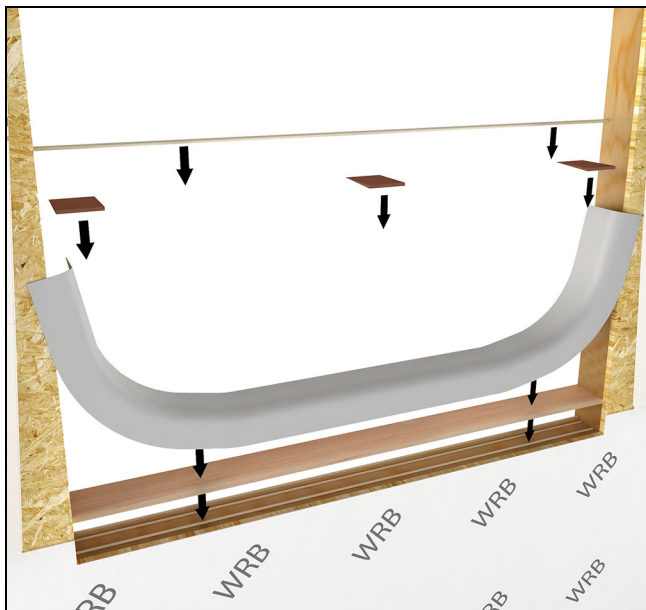

Figure 6
1. The method shown below is Method A1 using a TYPE III flash pan. For step by step instructions on how to prepare an opening using this method, refer to www.marvin.com/ROprep for instructions titled "Window Rough Opening Prep and Flashing Method A1-Membrane Drainage System". Refer to ASTM E2112-07 for other rough opening preparations that are more appropriate for your situation. See Figure 6.